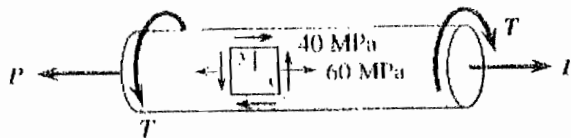

Fig. 4
4. (25%) The axle of an automobile subjected to the normal forces and a torque producing the state of stress shown in Fig. 4. Determine the principal stresses and principal angles. Show a sketch of the element oriented with principal stresses acting on it.